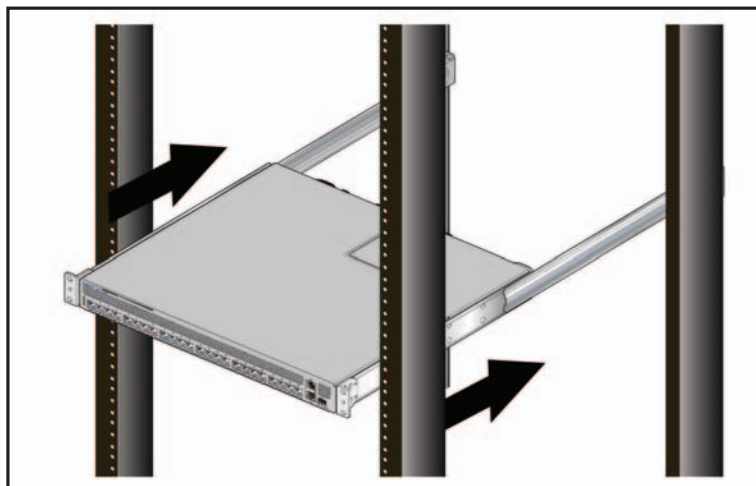

Figure 3-12: Inserting the Switch onto the Rails
- Step 2** Slide the switch on the rails, toward the rear posts, until the mounting bracket flanges are positioned on the rail posts (Figure 3-12 on page 11).